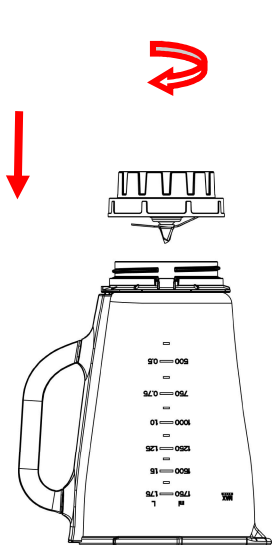

Fig.3
1) Invert the jar unit onto a level surface, holding the jar handle, put the seal ring 2 and blade assembly onto the blade base bottom and secure the blade assembly by turning it anti-clockwise until tight (See Fig.3)